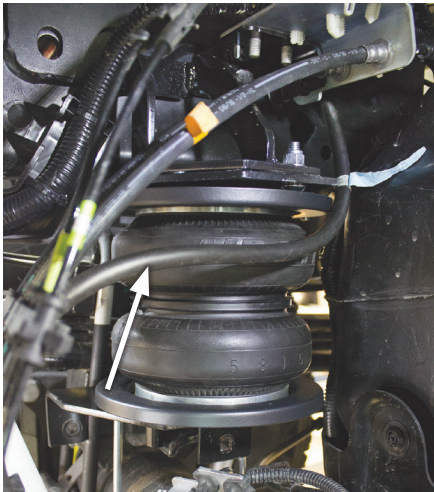

Fig. 37
11. The axle vent tube will also have to be zip-tied to one of the brake soft lines to keep it out of the way of the air spring assembly (Figs. 37 & 38).